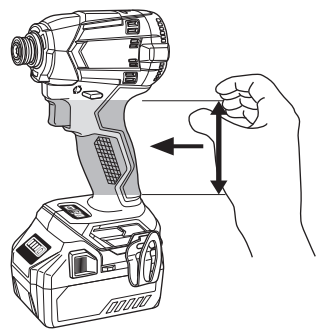

Fig. 8
- Make sure to securely hold the tool during operation. Failure to do so can result in accidents or injuries. (Fig. 8)